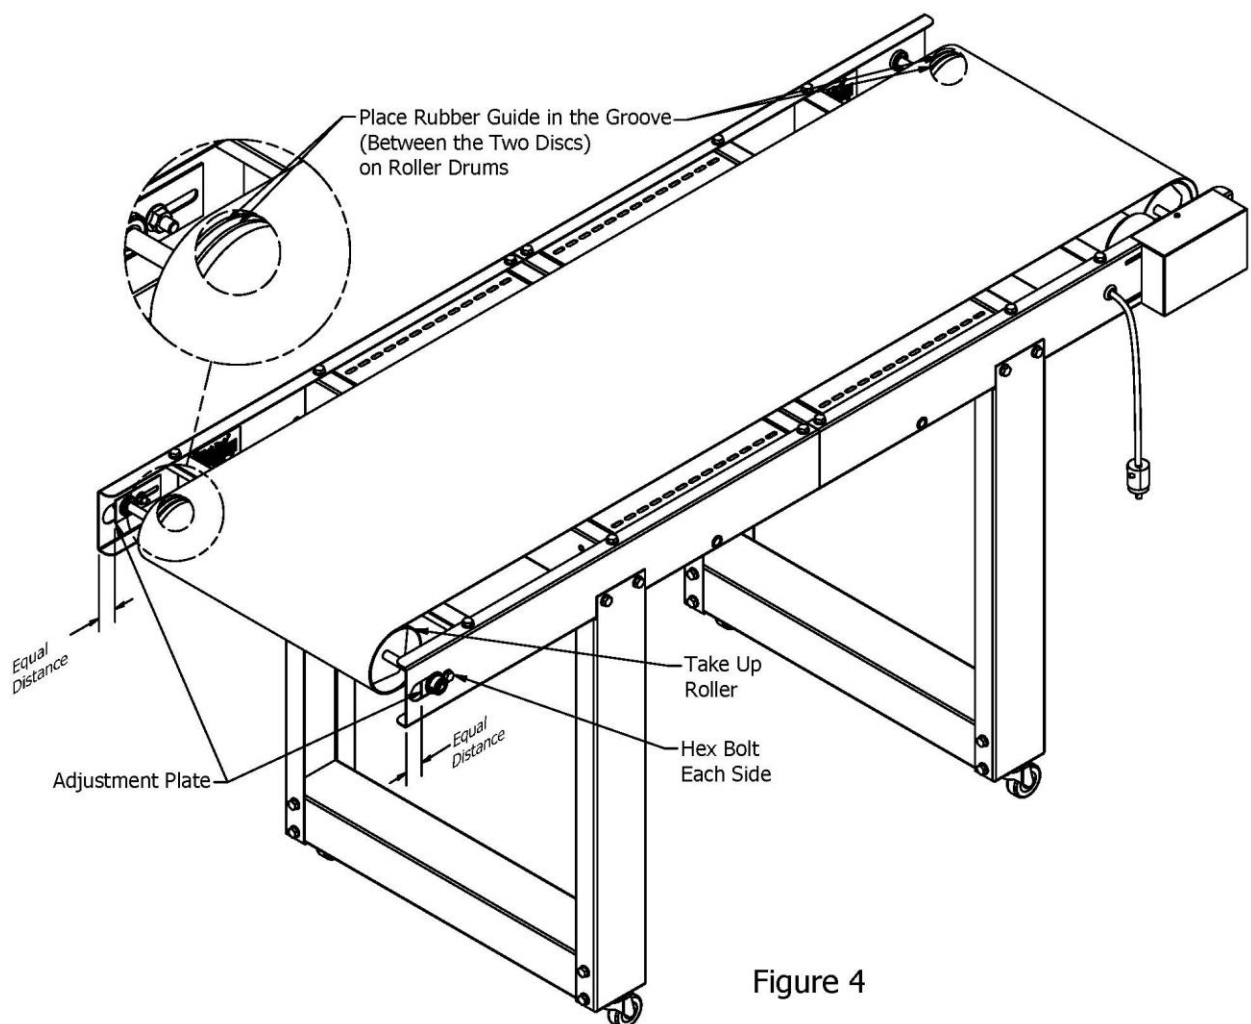

Figure 4
1. Determine the side of the belt that will convey product. A rubber guide is stitched onto one edge of the belt. This guide is designed to ride in the roller drum grooves to provide Hassle-Free-Tracking. (See Figure 4)
5. **Adjust belt tension:** Loosen (2x) hex bolts at Take Up Roller (See Figure 4). Pull roller at groove end till you have sag of 1 – 1.5 inches below the cross-members as the belt travels under the conveyor bed. Tighten hex bolt.